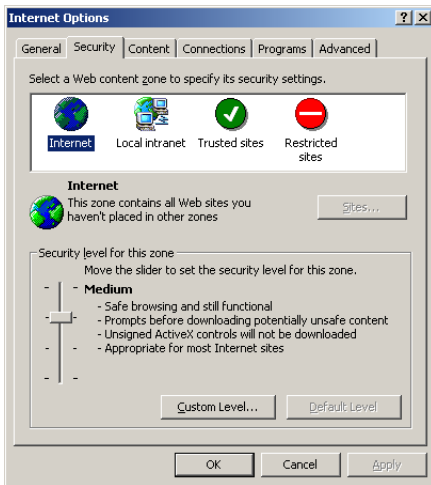

Figure 5-3 Default Internet Security Options
4. Select the Security tab on the Internet Options window. Refer to Figure 5-3.